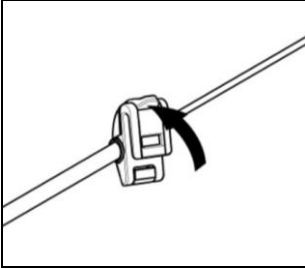

Fig. 24
- Open the clip positioned on the microphone boom, operating as indicated in Fig. 24. If necessary, use the flat head screwdriver provided to help open the clip.